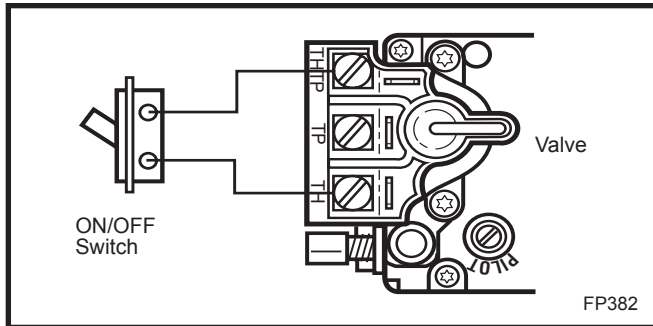

Fig. 10 Remote switch wiring.
3. Connect wiring to gas valve. (Fig. 10)